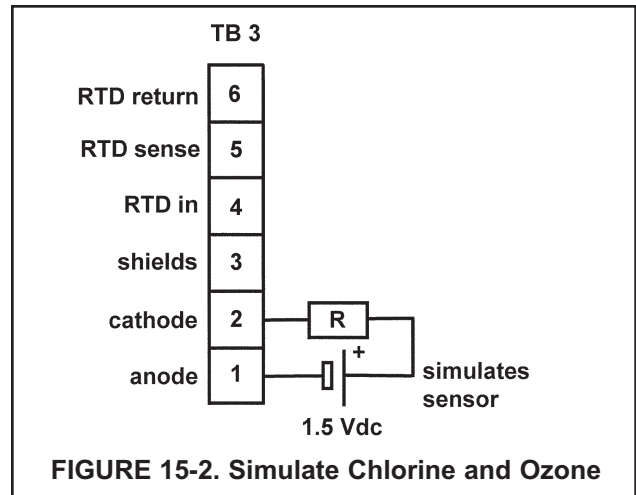

FIGURE 15-2. Simulate Chlorine and Ozone
- A. Disconnect the anode and cathode leads from terminals 1 and 2 on TB3 and connect a decade box and battery as shown in Figure 15-2. It is not necessary to disconnect the RTD leads.